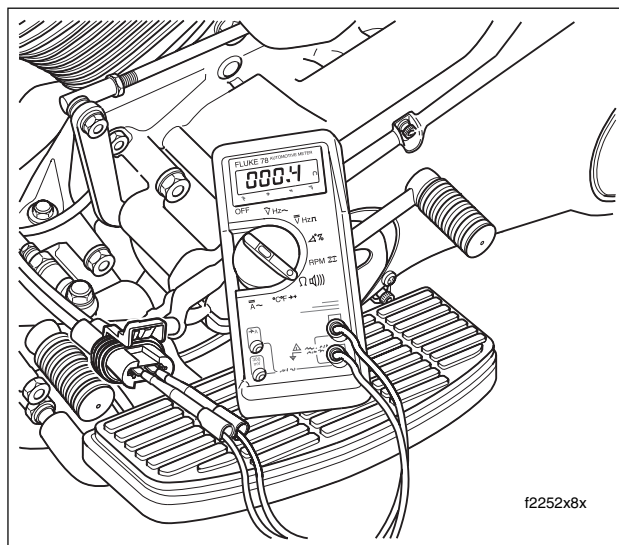

Figure 1-14. Check for Stator Resistance
3. See Figure 1-14. Check the resistance using an ohmmeter set on the RX1 scale. Resistance should be less than 0.5 ohms across the stator socket. If it is not, then the stator is damaged and must be replaced.